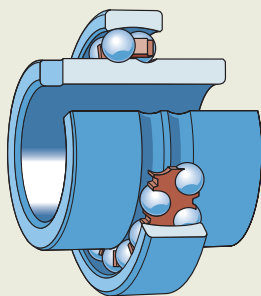

Fig. 9
- are located axially on the shaft by means of a slot at one end of the inner ring that engages a pin or shoulder screw (fig. 9) fitted to the shaft